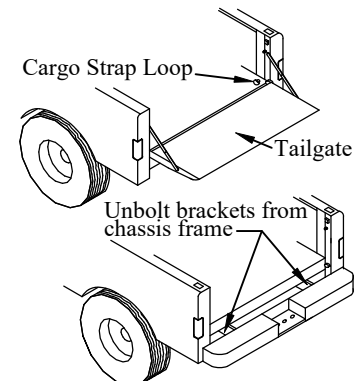

Figure 3: Remove Hardware.
1. **Remove** the tailgate and hardware shown (Figure 3).